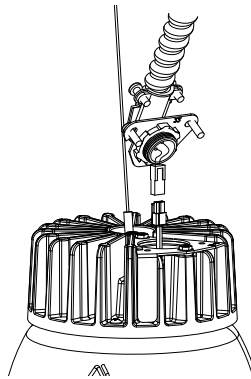

Figure 2
2. Make LED module connection to BX assembly. See Figure 2.